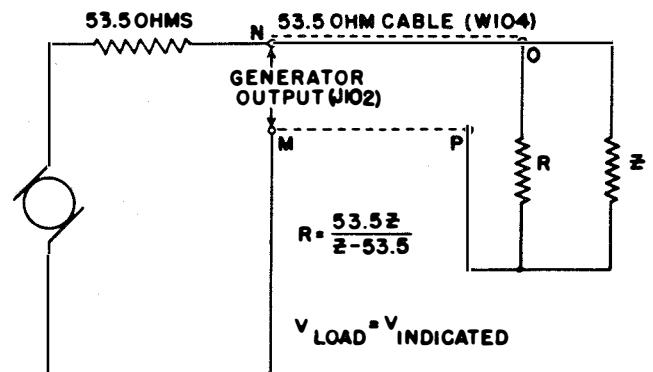

Figure 2-13. Equivalent Circuit of X MULT RF OUTPUT (J-102) with Shunt Resistor Added
b. If the load impedance is considerably less than 500 ohms, but more than 53.5 ohms, the impedance adapter is replaced by a non-inductive composition resistor which shunts the load (see figure 2-13). The equivalent impedance of the shunt and load should equal the generator impedance (53.5 ohms). The receiver input voltage will then be equal to the meter indication. For example; if the receiver input impedance (Z) is 120 ohms, select the correct shunt resistor (R) as follows: